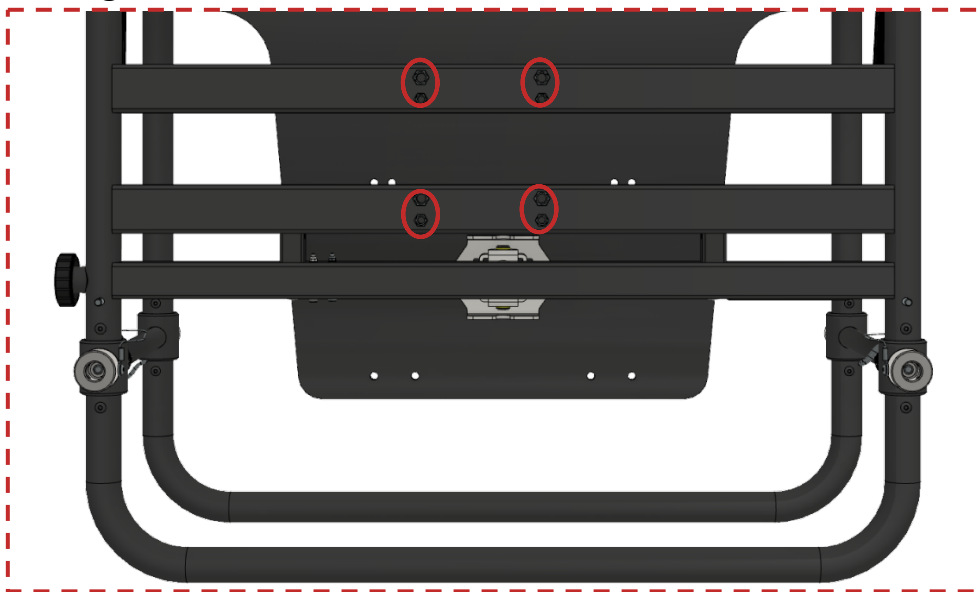

Figure 24 Inspection of mounting threads at bottom side
- Before and after each installation, the **M6 and M8 mounting holes** (see red marking in Figure 24) must be carefully inspected, as they may get damaged during the installation of the hanging accessory.